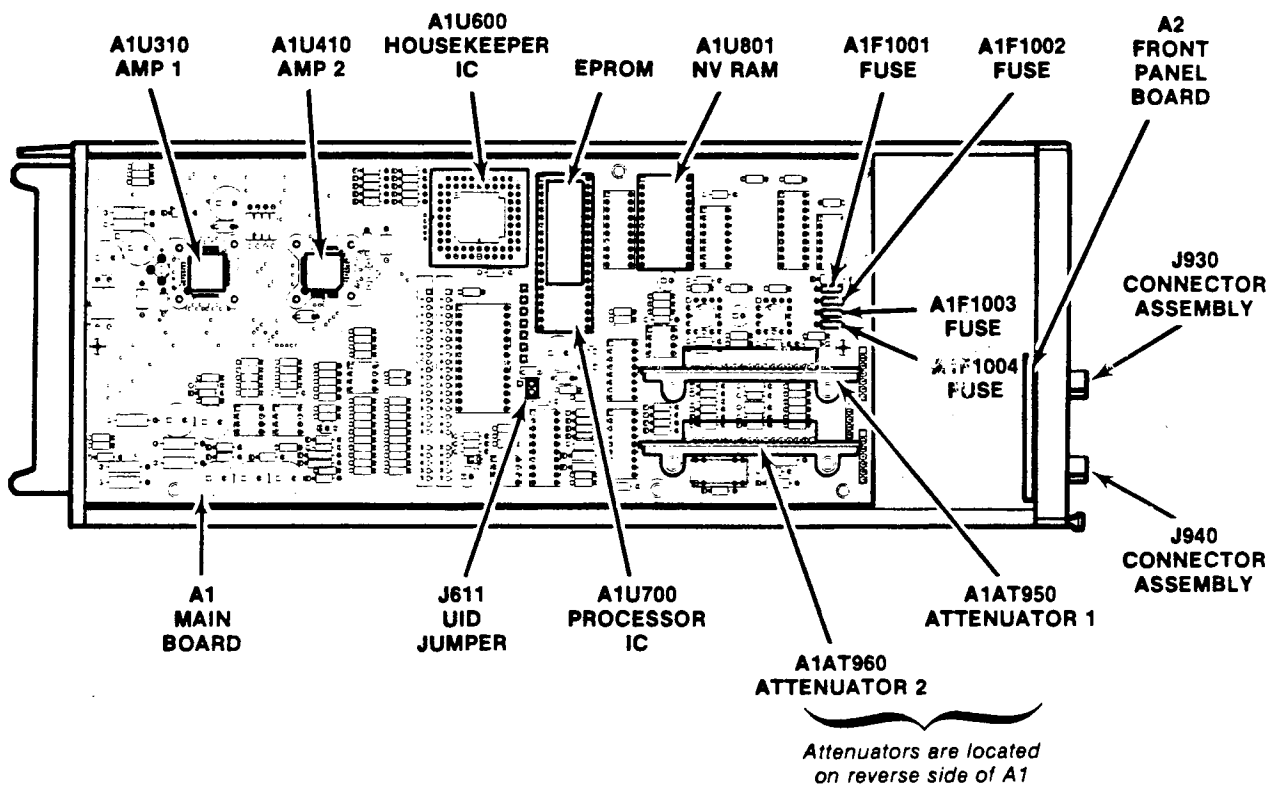

Figure 1. - Component locations.
- () 2. Replace A1U310 and A1U410, vertical pre-amp microcircuits, with the new microcircuits, pn 165-2129-03, provided in this kit. For disassembly and replacement of the microcircuit from the Hypcon assembly connector refer to the following steps. Refer to Figure 1, for component locations.
- () 1. Remove A1U700, EPROM microcircuit, using an Insertion - Extraction Pliers (such as General Tool's pn U505BG, a 28-pin type). Refer to Figure 1, for component location.
- () 3. Move the UID Term Conn Link (jumper) J611 on the Main circuit A1 (shown in Figure 1). The jumper should be vertical in its normal position. Remove the jumper and install it horizontally.